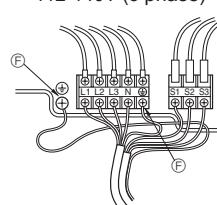

Fig. 6-2
### 6.1. Outdoor unit (Fig. 6-1, Fig. 6-2)
① Remove the service panel.
② Wire the cables referring to the Fig. 6-1 and the Fig. 6-2.